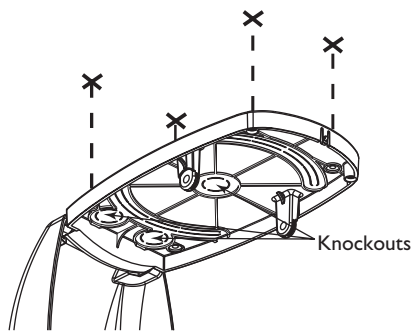

Figure 2 Housing Bottom
3. Position the housing in the desired location. Be sure the location is structurally sound. Mark the four mounting holes (see Figure 2).
4. Remove the camera bracket by loosening the two (2) 1/4in. bolts on either side of the bracket. The nuts are held in place by the bracket, allowing for self-tightening when they are reinstalled.
5. Remove one of the three knockouts on the bottom of the housing (see Figure 2). This will allow electrical and video cables to pass through.